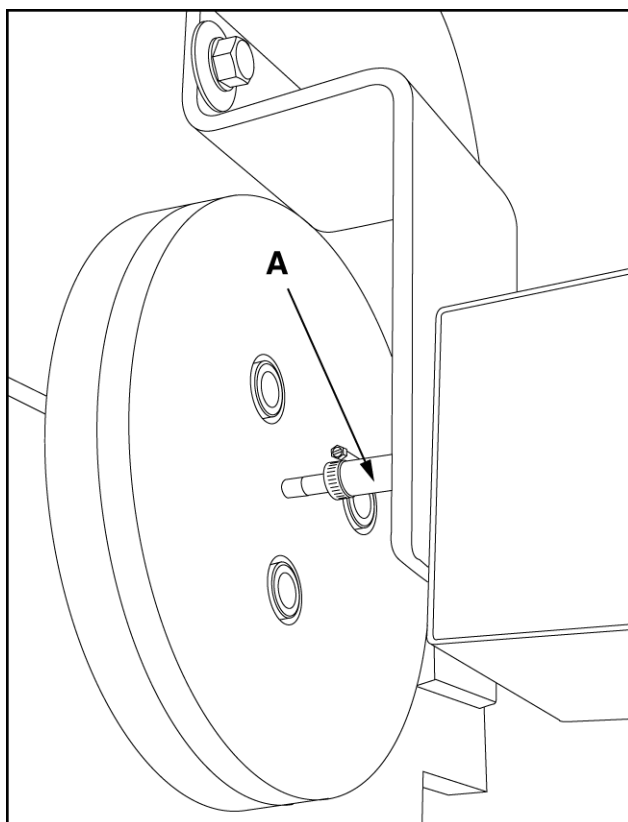

Figure 7.3 ROTARY SENSOR COUPLER
2. If the rotary sensor value shown in the screen is not 1000, loosen rotary sensor coupler (A) (as shown in figure 7.3) and make adjustment. To adjust, turn rotary sensor coupler until 1000 is reached. Use the screen to monitor the rotary sensor. Make sure you tighten rotary sensor coupler before resuming adjustment.